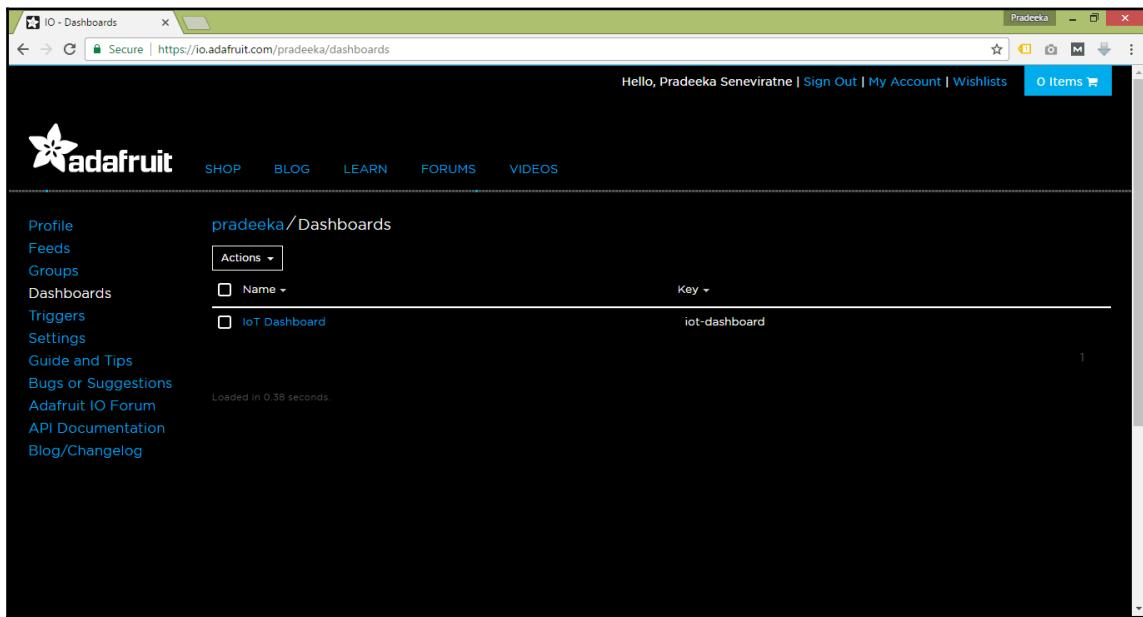

Figure 4-12: List of dashboards
4. The newly added dashboard will show in the dashboards list shown in Figure 4-12: